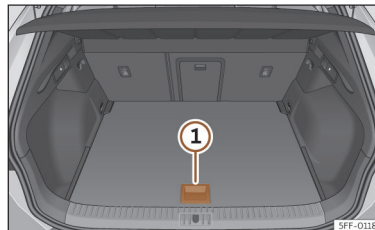
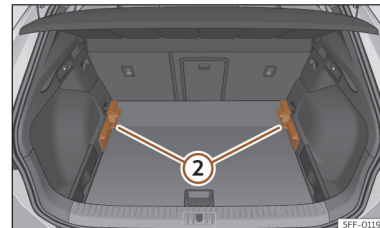

Fig. 190 Variable luggage compartment floor: high position.
Fig. 191 Variable luggage compartment floor: low position.
- To move from the low position to the high position, lift the floor using the handle >>> **Fig. 190** (1), and pull it back until the front of the floor has fully passed the supports >>> **Fig. 191** (2).
- Move the floor forward over the supports as far as the rear seat backrest and then lower the floor with the handle (1).
- To move from the high position to the low position, lift the floor using the handle >>> **Fig. 190** (1), and pull it back until the front of the floor has fully passed the supports >>> **Fig. 191** (2).
- Now let the front part fall to the floor and slide the floor forwards as far as the rear seat backrest; lower the floor at the same time with the handle (1).
CUPRA recommends returning the variable floor to the high position >>> **Fig. 190** when additional space is no longer required.
- Lift the variable floor to the high position using handle >>> **Fig. 190** ①, pull it up and push it towards the backrest of the rear seats until it folds along the hinge line and the movable part of the floor is resting on itself.